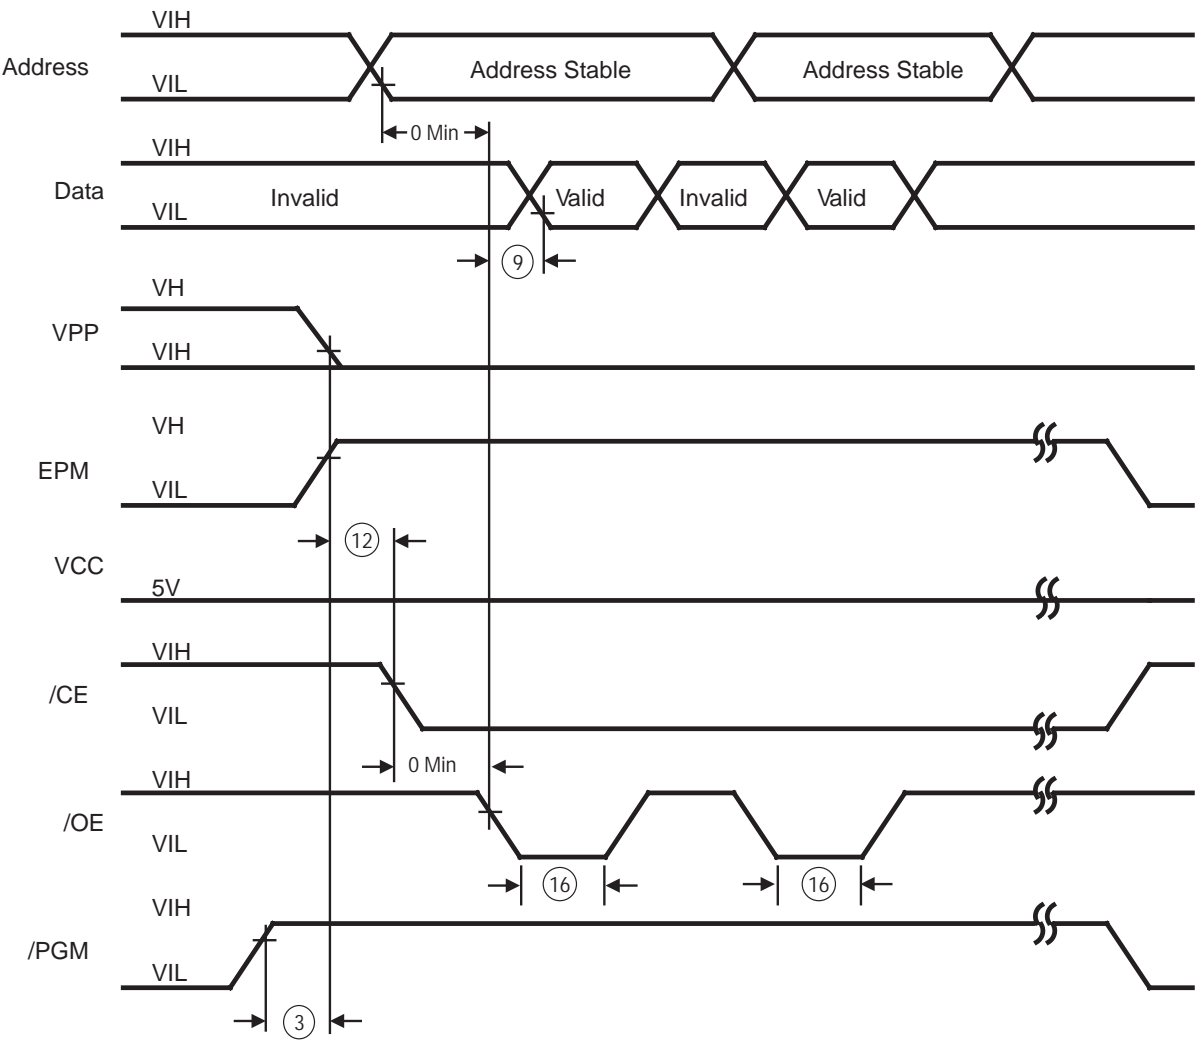

Figure 20. Z86E02 Programming Waveform (EPROM Read)
**Programming Waveform.** Figures 20, 21, 22, and 23 show the programming waveforms of each mode. Table 7 shows the timing of programming waveforms.